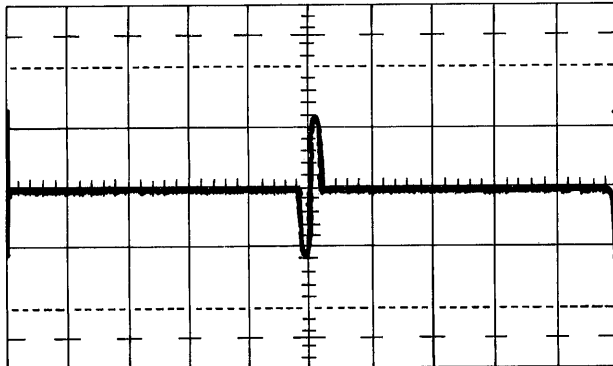

Figure 5-17. Index Pulse Repetition Rate
- c. Monitor index pulses (see Figure 5-17).